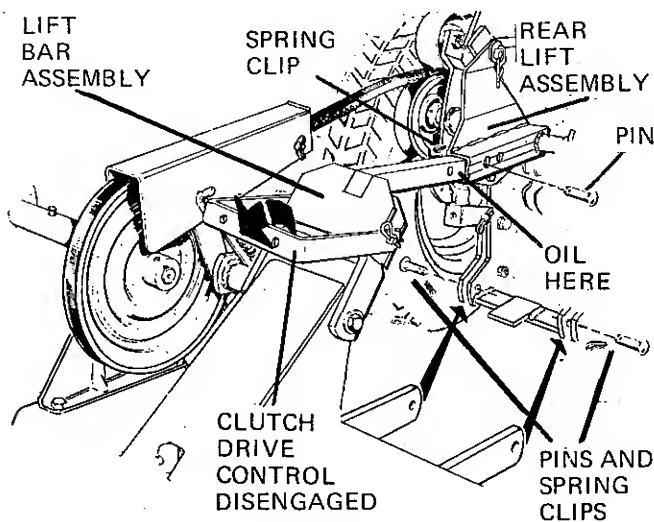

FIGURE 2
3. (See figure 2) Lower the tractor lift unit and place the revitalizer lift bar assembly into the tube of the tractor rear lift assembly. Placing a thin film of oil on the lift bar will make it
5. (See figure 2) Insure that the revitalizer drive clutch is pushed all the way back in the disengaged position.